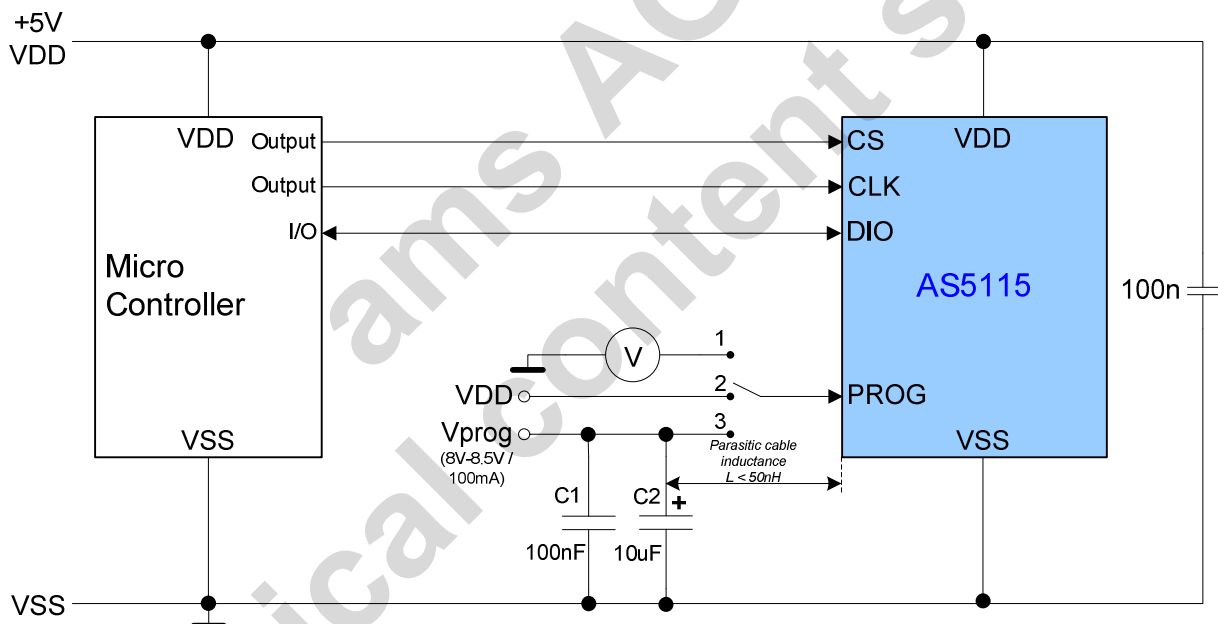

Figure 1: Programming circuit of AS5xxx
**Note:** During normal operation the PROG pin should be supplied with 5V (Figure 1, switch position 2)!
- Ensure that Vprog (8V-8.5V) is applied to PROG pin (Figure 1, switch position 3)
- Redirect PROG pin signal to voltmeter (Figure 1, switch position 1)